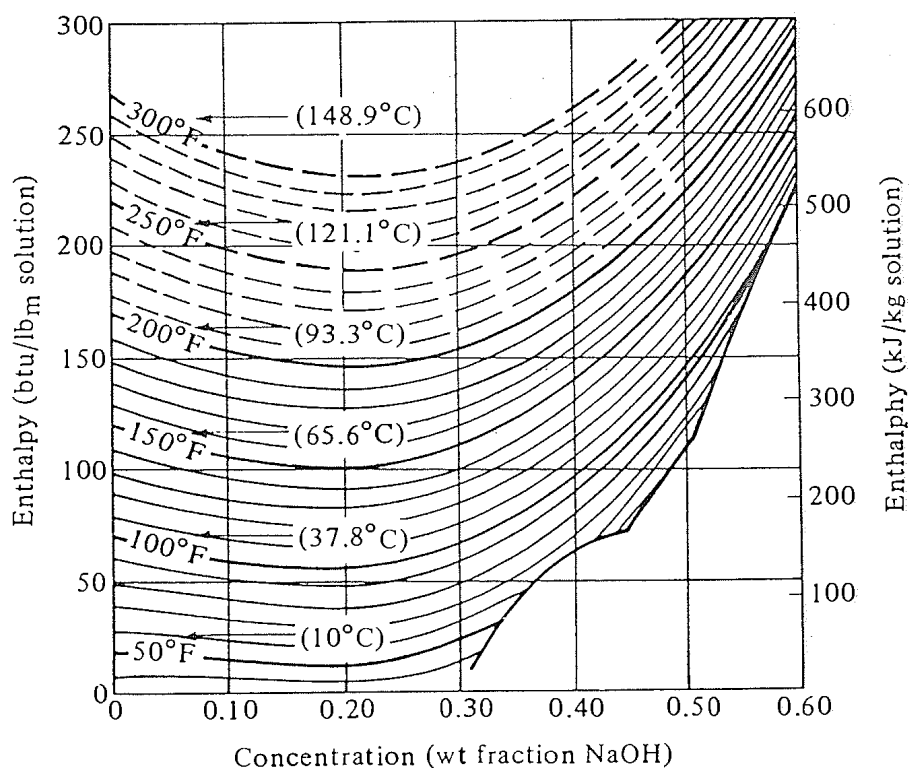

Figure 5: Enthalpies of NaOH solutions for use in Q. 2.5.
- Determine the duty of the evaporator. You must clearly state any other approximations you make. An enthalpy-concentration diagram for aqueous NaOH mixtures is available in Fig. 5. **[8 marks]**